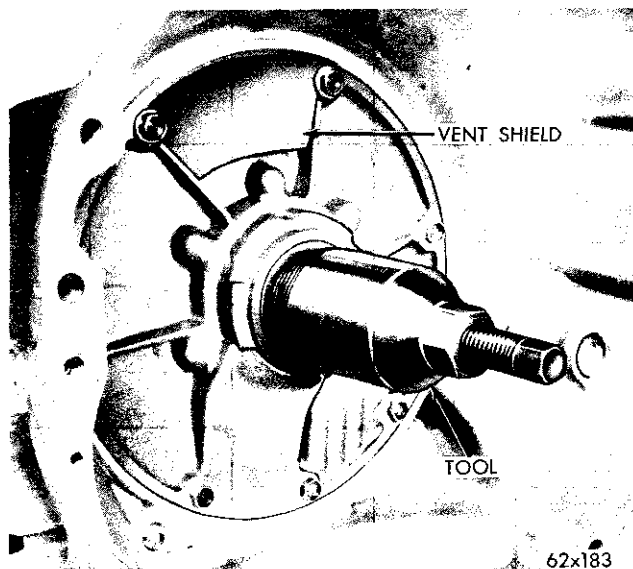

Fig. 50—Removing Front Pump Oil Seal
- (1) Screw seal remover, Tool C-3861 into the seal (Fig. 50). Tighten the screw portion of tool to withdraw the seal.